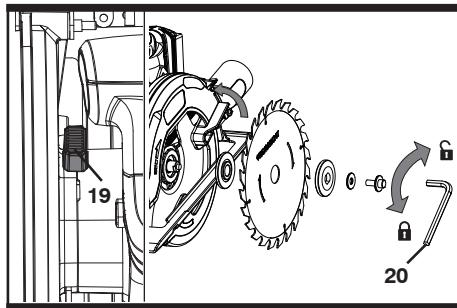

Fig.B1
19. Spindle lock button (See fig. B1)
20. Hex key (See fig. B1)